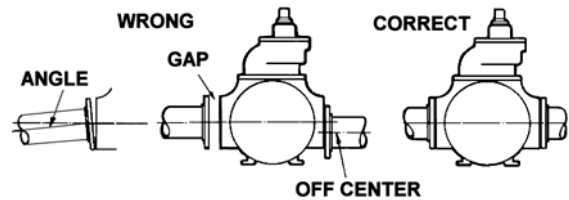

Figure 2
8. Check alignment of pipes to pump to avoid strains which might later cause misalignment. See Figure 2. Unbolt flanges or break union joints. Pipes should not spring away or drop down. After pump has been in operation for a week or two, completely recheck alignment.